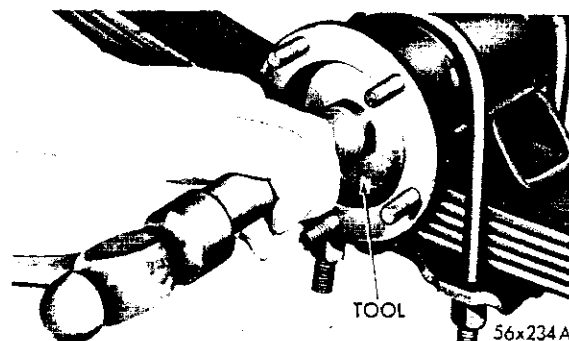

Fig. 6—Installing Axle Shaft Inner Oil Seal
(1) When original axle shafts and/or bearings are used, start the measurement of the shaft end play with the original shim packs, after recording thickness of each. Where either or both the axle shaft and bearing are replaced, use shim packs totaling .040 inch per side. Shims are available in thickness of: .005, .0125, .015 and .030 inch.
(2) Install the inner oil seals with Tool C-839 (Fig. 6).
(3) Starting at one end of the axle housing, install a .040 inch shim pack on the flange studs.
(4) Working from the same side of the axle housing, lubricate the axle shaft bearing with a wheel bearing lubricant, and install the axle shaft.
(5) Install the bearing cup with the installing